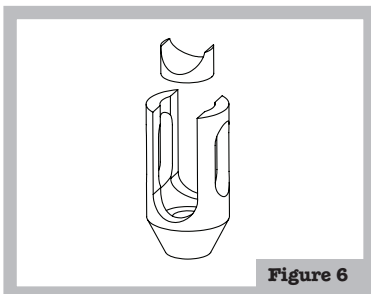

Figure 6
6. Drop the upper tube blocks into the upper barrels. The flat ends of the tube blocks should face the set screws. Align the radii of the blocks with the radii of the barrels (Figure 6).